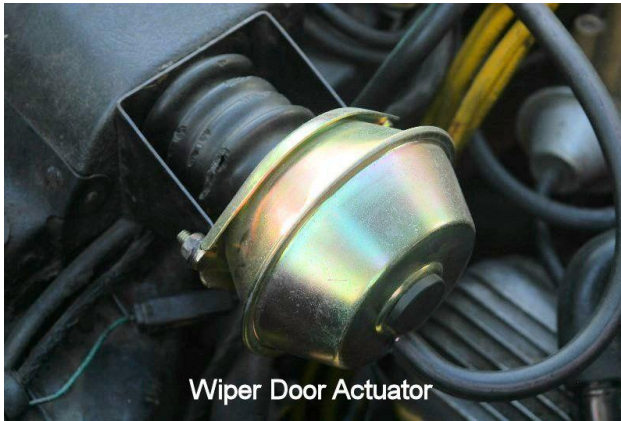
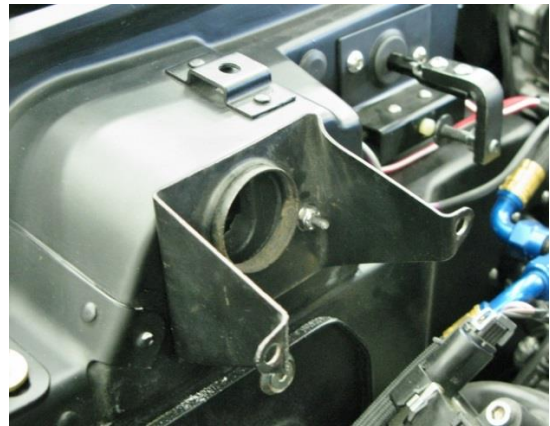

Figure 2 - Wiper Door Actuator
Figure 3 - Actuator Bracket
3. Remove the wiper door vacuum hoses from the actuator (Figure 2). Remove the vacuum actuator from the mounting bracket. Remove the mounting bracket from the firewall (Figure 3). Keep these fasteners as you will reuse them later in the installation.